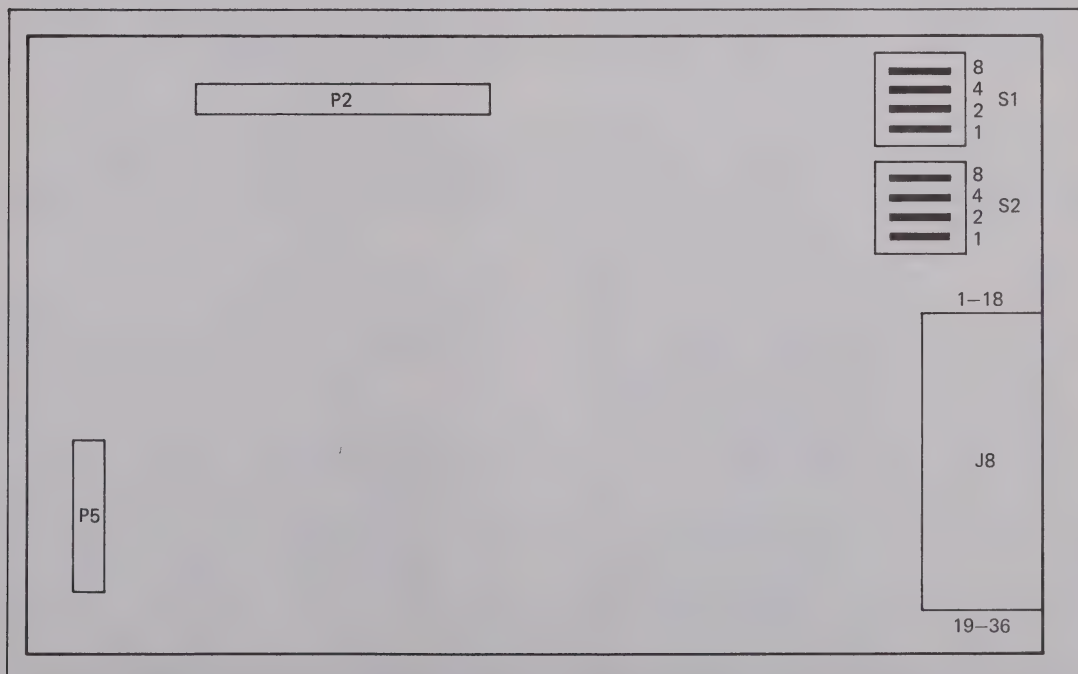

Figure 606-1. Switch and Connector Locations
5. Both switches (S1 and S2) are located at the rear of the interface pcb, to the right of the rear-panel connector. (Refer to Figure 606-1).